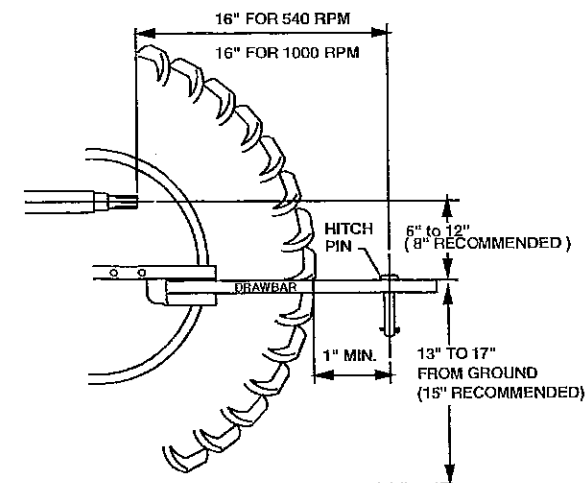

Figure 3. Drawbar Specification.
**Drawbar** - The tractor must be equipped with a clevis hitch and an intermediate safety chain support on the drawbar. The drawbar must be capable of supporting 4,000 lbs. (1,820 kg.) hitch weight. Distance from drawbar hitch pin to the end of the PTO shaft stub should be 16 inches for all SupRaMix Models. See Figure 3). Be sure that the hitch pin has a low profile head so that it will not interfere with the operation of the PTO over uneven ground.